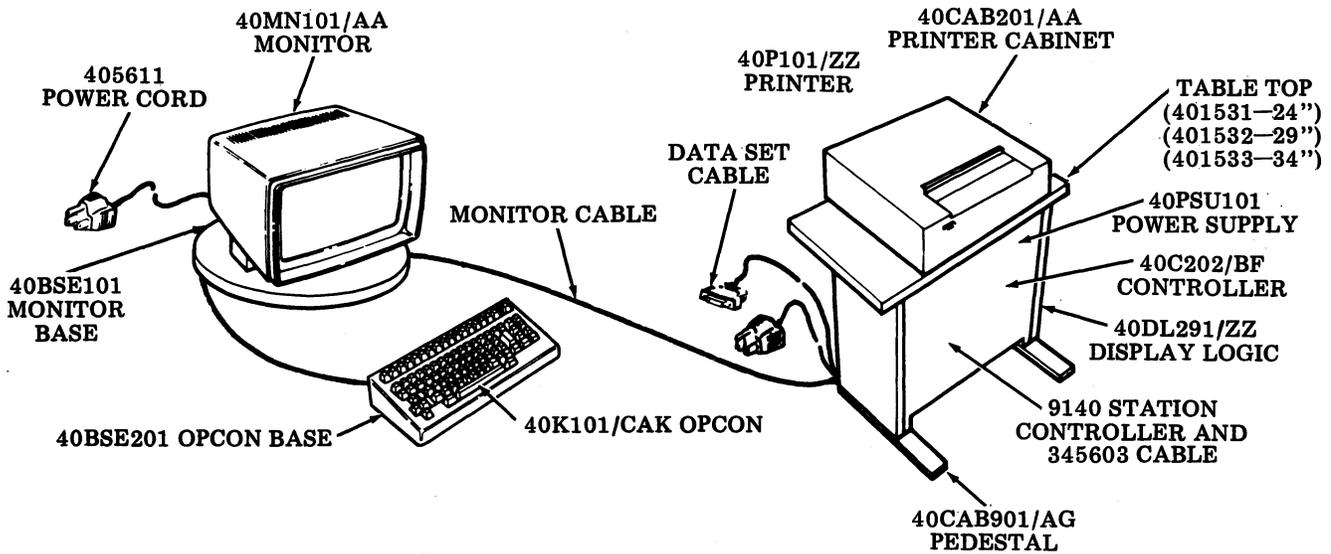

Fig. 4--KDP Station (80-Column Friction Feed)
2.07 Free-standing KDP stations with the printer on the pedestal are shown (Fig. 4 and 5). 408890 modification kit is required for these arrangements. 403011 modification kit (enclosure around form supply box) is required for the 80-column tractor feed printer.